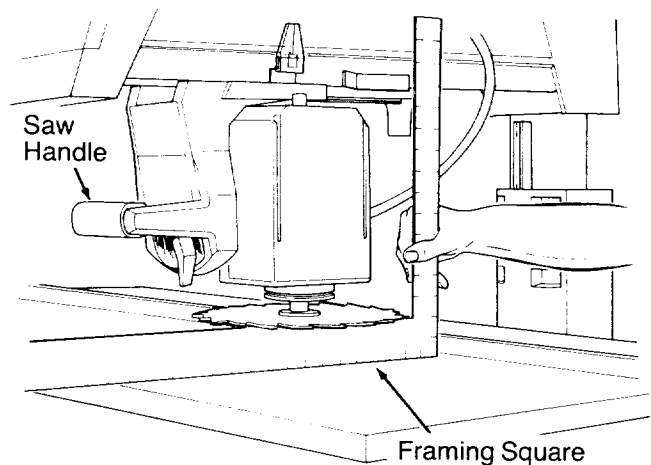

Fig. 74
*table* under the *blade* and the short edge is sticking up in the air. Make sure that the long edge is perpendicular to the *fence*. (Figure 74)